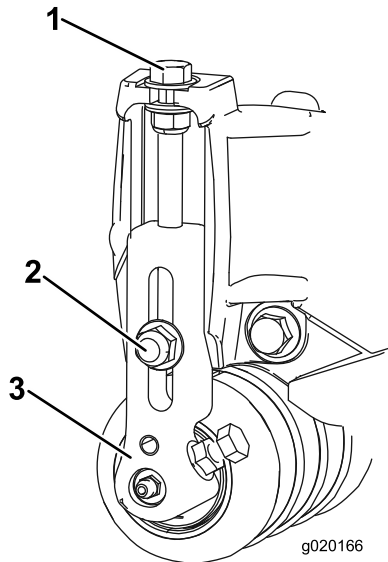

Figure 16
1. Loosen locknuts securing height-of-cut brackets to cutting unit side plates (Figure 16).